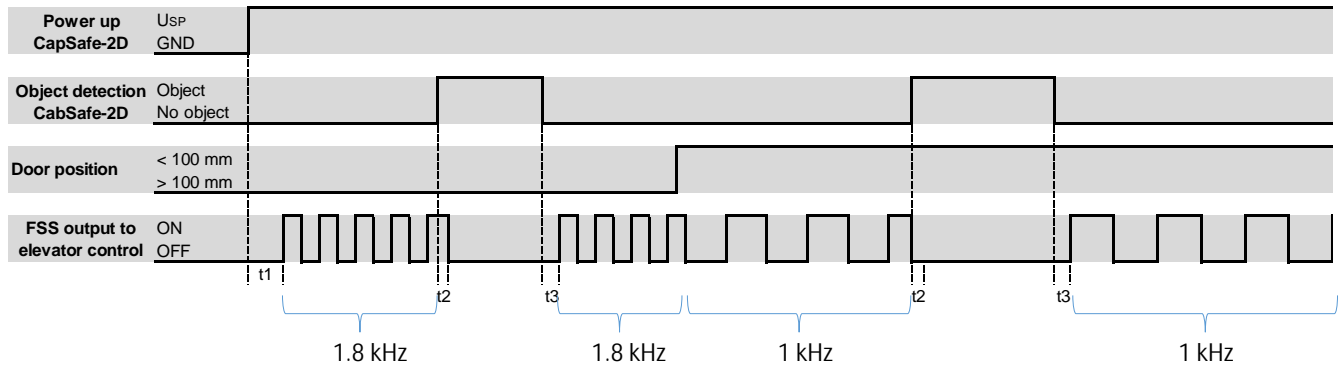

Figure 12: Timing diagram
When an object enters the safeguarded area (OBJECT DETECTED) the cegard/Pro (CabSafe 2D) light curtain output changes state after response time  $t_2$  (see Figure 12). When the object leaves the safeguarded area (NO OBJECT) the cegard/Pro (CabSafe 2D) light curtain output switches back after release time  $t_3$  (see Figure 12).
The output logic of the cegard/Pro (CabSafe 2D) is set using the gray wire. The logic will be defined by the power-up sequence. After the power up the logic will not change until the next power-up is made. The default logic is Light ON (LO) (which is shown in Figure 12). The output logic is LO if the gray wire is connected to GND (0 V). Connecting the gray wire to  $U_{SP}$  changes the output logic to Dark ON (DO).
Table 4: Descriptions for the timings in Figure 12